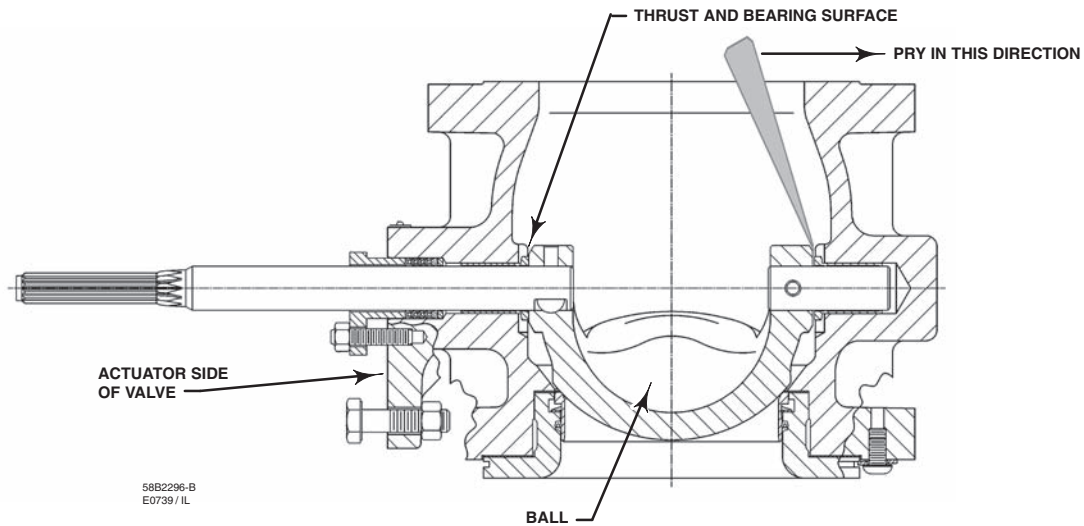

Figure 6. Typical Vee-Ball Valve Showing Pry Bar
3. Remove the actuator cover. Take note of the orientation of the actuator with respect to the valve body and the lever orientation with respect to the valve drive shaft (see figure 6).
1. For 8-, 10-, and 12-inch valves, install the packing spacer (key 34) if it has been removed.
2. To help ensure correct centering of the Vee-ball (key 2) on the seal (key 11), make sure the ball is closed while you install or tighten new packing. Insert a screwdriver, pry bar, or similar tool between the lower ear of the ball and the valve body. Use the pry to move the ball tightly against the bearing on the actuator side of the valve (see figure 6). Keep the ball in that position until you have completed packing installation and adjustment.
1. Thoroughly clean all parts that are to be re-used and obtain replacement parts. Be sure that all sealing surfaces are in good condition without scratches or wear. If the valve has been installed between line flanges and the flange studs and nuts have been tightened, always replace the gasket (key 15) with a new gasket.
2. To help ensure correct side-to-side centering of the ball (key 2) on the seal (key 11), make sure the ball is closed while you install the seal or flow ring and seal protector ring. Insert a screwdriver, pry bar, or similar tool between the lower ear of the ball and the valve body (see figure 6).